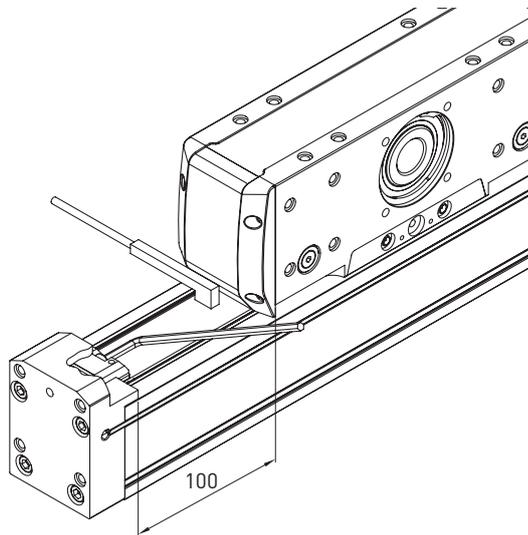

Fig. 7.37 **Preloading the toothed belt**
- ▶ Set the distance between the end plate edge and the edge of the drive block housing to 100 mm as shown in Fig. 7.37.